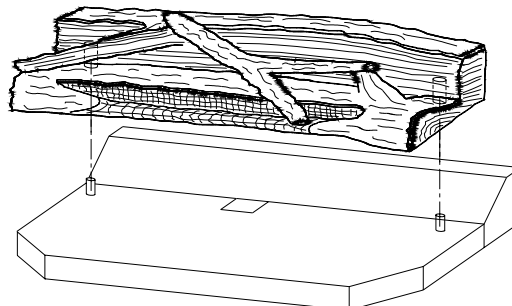

figure 18
3. Lift the log set off the location pins on the burner tray as shown in Figure 18, and remove.